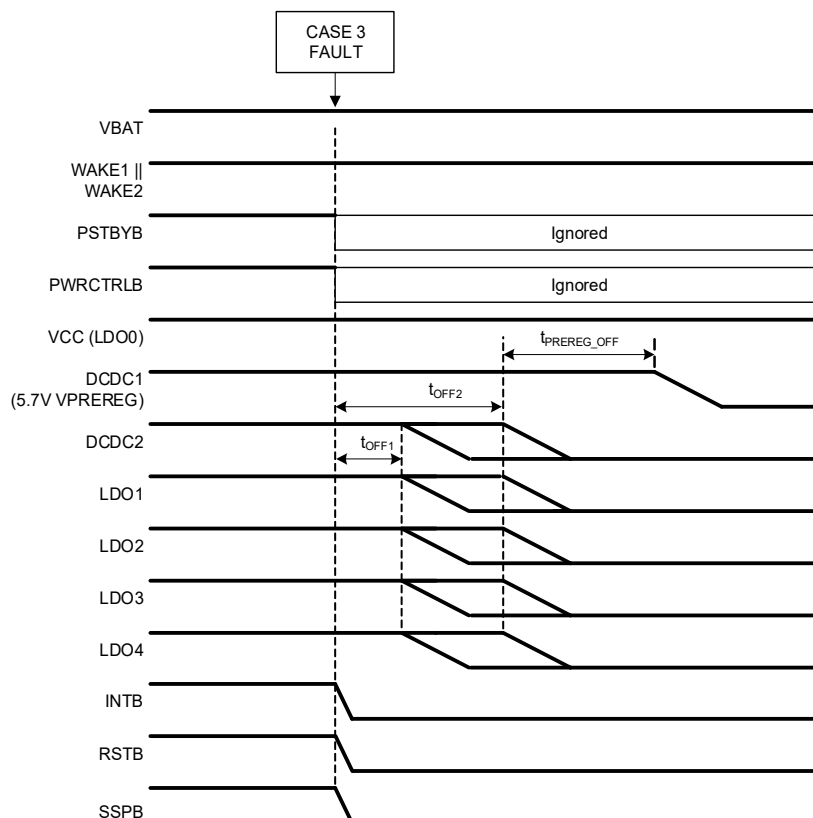

Figure 31. Case 3 Fault Timing
- Case 3 – Most severe fault reaction requiring PMIC shutdown. PMIC can only be re-enabled using the three options described in the OPT_FAULTED_RELEASE register description. After faulted release, the PMIC restarts. The restart time is dependent on the longest OPT_WAIT_DISCHG setting. For example, if one of the regulators being restarted has an OPT_WAIT_DISCHG setting of 50ms, the PMIC does not attempt to restart until after this 50ms time period has expired. Figure 31 shows the timing for this case.